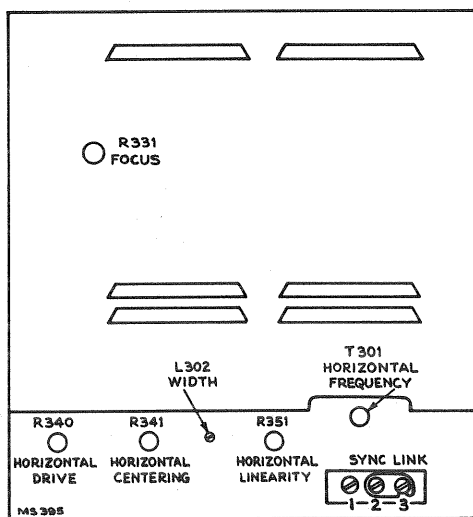

Figure 7—Horizontal Deflection Chassis Adjustments
**CHECK OF HORIZONTAL OSCILLATOR ALIGNMENT**—The sync link (see Figure 7) must be in the normal position (2 to 3). Turn the horizontal hold control to the extreme counterclockwise position. The picture should remain in horizontal sync. Momentarily remove the signal by switching off channel then back. Normally the picture will pull into sync.
**WIDTH AND HORIZONTAL LINEARITY ADJUSTMENTS**—Turn the horizontal drive (R340 on rear apron) clockwise as far as possible without causing crowding of the right of the picture. This position provides maximum high voltage to the kinescope second anode. Adjust the horizontal linearity control R351 (see Figure 7) until the test pattern is symmetrical left to right. A slight readjustment of the horizontal drive control may be necessary when the linearity control is used. Adjust the width control (L302 on rear chassis) until the picture just fills the screen horizontally. Adjust horizontal centering to align the picture with the mask. In some cases it may be necessary to shift the position of the kinescope in the holder in order to obtain proper centering of the picture.